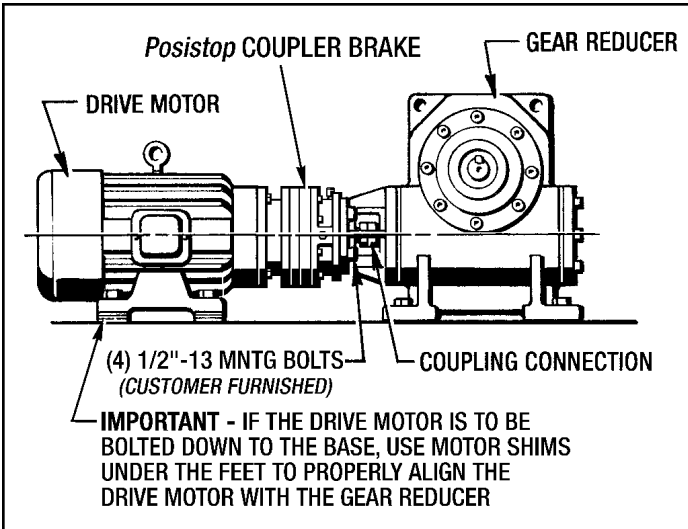

Figure 3.10 - Motor and Gear Reducer Alignment
(See Figure 3.10)
1. Attach the Drive Motor and Brake Assembly to the Gear Box or Driven Machinery with the (4) 1/2"-13 Mounting Bolts (Customer Furnished). **Torque to 60 Lb. Ft.** Connect the coupling as per manufacturer's specifications.
2. If the Drive Motor is to be bolted down to the base, use motor shims under the feet to properly align the drive motor with the gear reducer as shown in Figure 3.10. **This is very important so the Coupler Brake will not be pulled down or pushed up.**